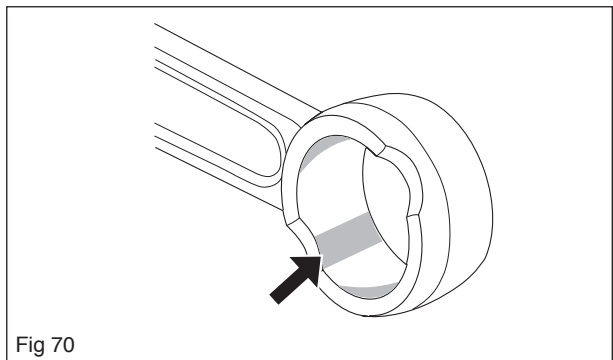

Fig 70
3. That the bearing surface for the gudgeon pin bearing does not have any score marks or is discoloured. See figure 70.